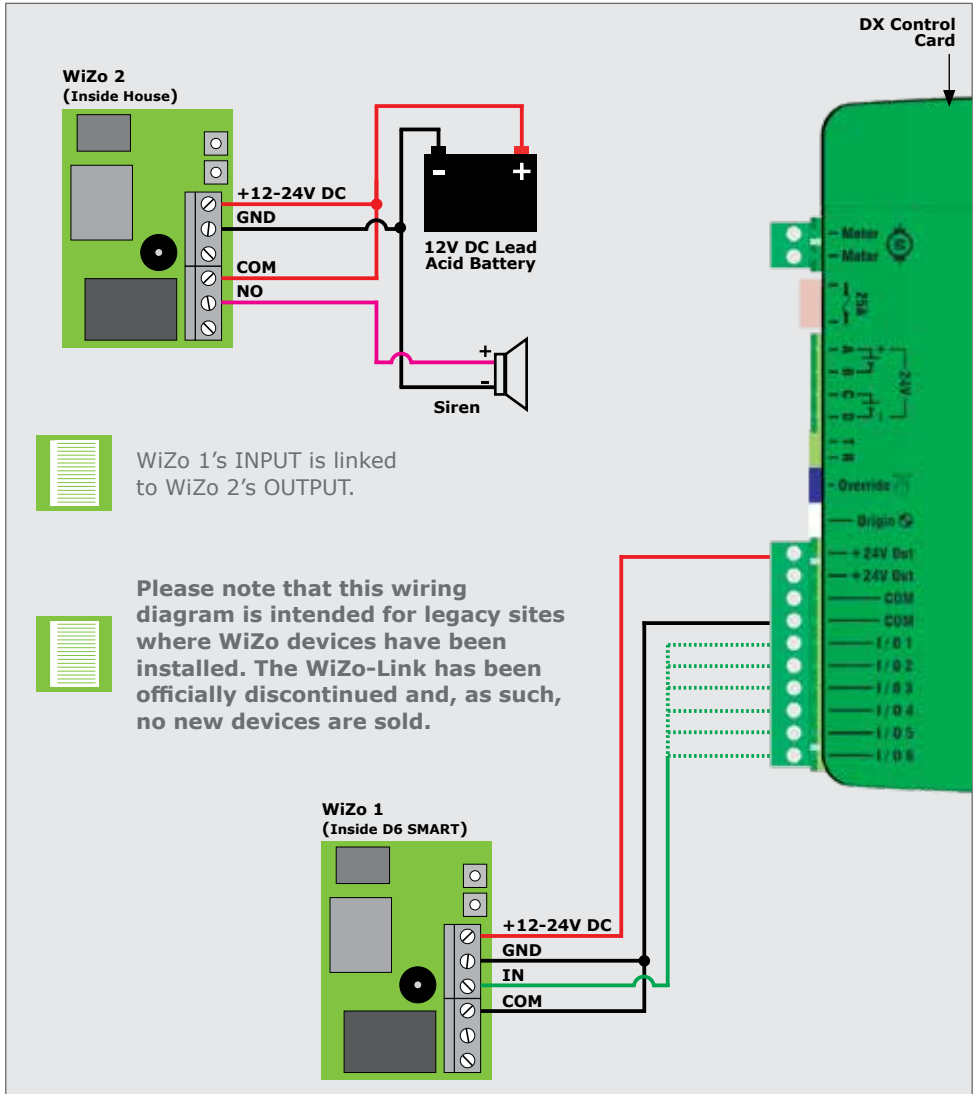

FIGURE 89. ANTI-TAMPER ALARM WIRING WITH TWO WIZOS
- The trigger/TRG (green wire) in Figure 89 can be either wired into IO1 - IO6, depending on the sites individual needs